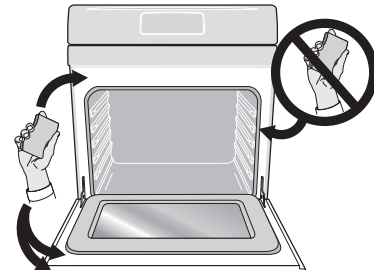

Figure 16: Oven door area to clean and not clean (gasket).
- Clean any soil from the oven frame, the door liner outside the oven door gasket, and the small area at the front center of the oven bottom (See Figure 16). These areas heat sufficiently to burn soil on. Clean using soap and water prior to starting Self Clean.
- Do not clean the oven door gasket (See Figure 16). The woven material of the oven door gasket is essential for a good seal. Care should be taken not to rub, damage, or remove the gasket. Do not use any cleaning materials on the oven door gasket. Doing so could cause damage to the door gasket.